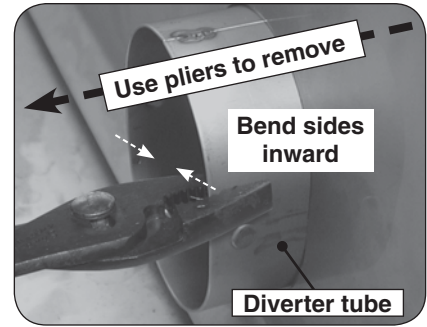
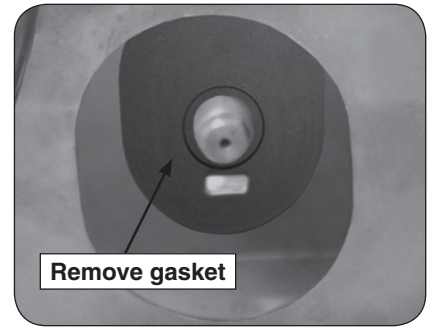

Fig. 2-1 Remove diverter tube
Fig. 2-2 Remove silicone gasket
- The grill is equipped with a heatshield kit for each main burner. This kit is only functional with the standard main burner, and must be removed for proper infrared burner operation. Use pliers to remove the diverter tube by bending in each side and pulling it outwards (see Fig. 2-1), then reach in and remove the silicone gasket (see Fig. 2-2).